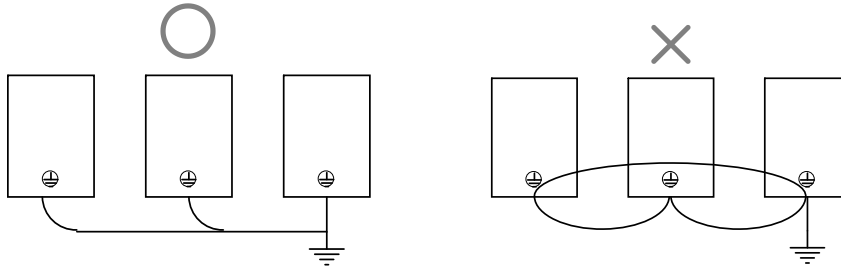

Figure 4-10 Grounding method for multiple inverters
- When grounding multiple inverters, it is recommended that a loop be avoided as much as possible in order to avoid the formation of a loop by the grounding wire. See Figure 4-10 for the grounding method of multiple inverters.